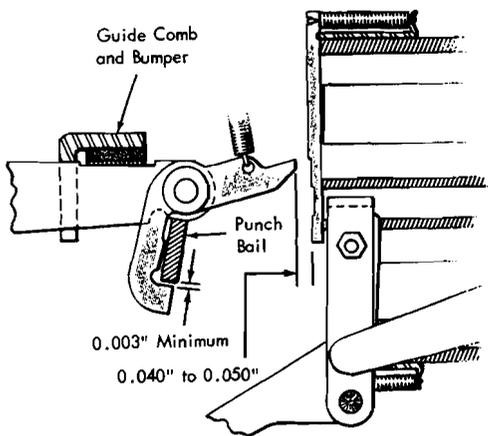

Figure 4-17. Interposer Unlatching Clearance
there should be 0.003-inch minimum clearance between bottom of bail and interposers (Figure 4-17). Check adjustment by placing the hand on the punch arms to take up any clearance between top of bail and punch arms; then trip all interposer armatures. All positions should latch under the bail.
2. The heel of the latching end of the interposers has been rounded to avoid contact with the opposite side of the notch in the armatures. Shift the magnet unit toward or away from the interposers to obtain 0.040-inch to 0.050-inch clearance (Figure 4-17).